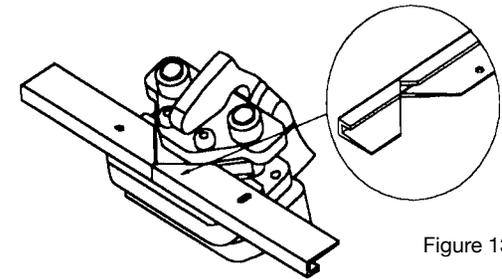

Figure 13
3. Turn the metal cap over; locate punch tip at mark on room leg, and cut through (see figure 13).